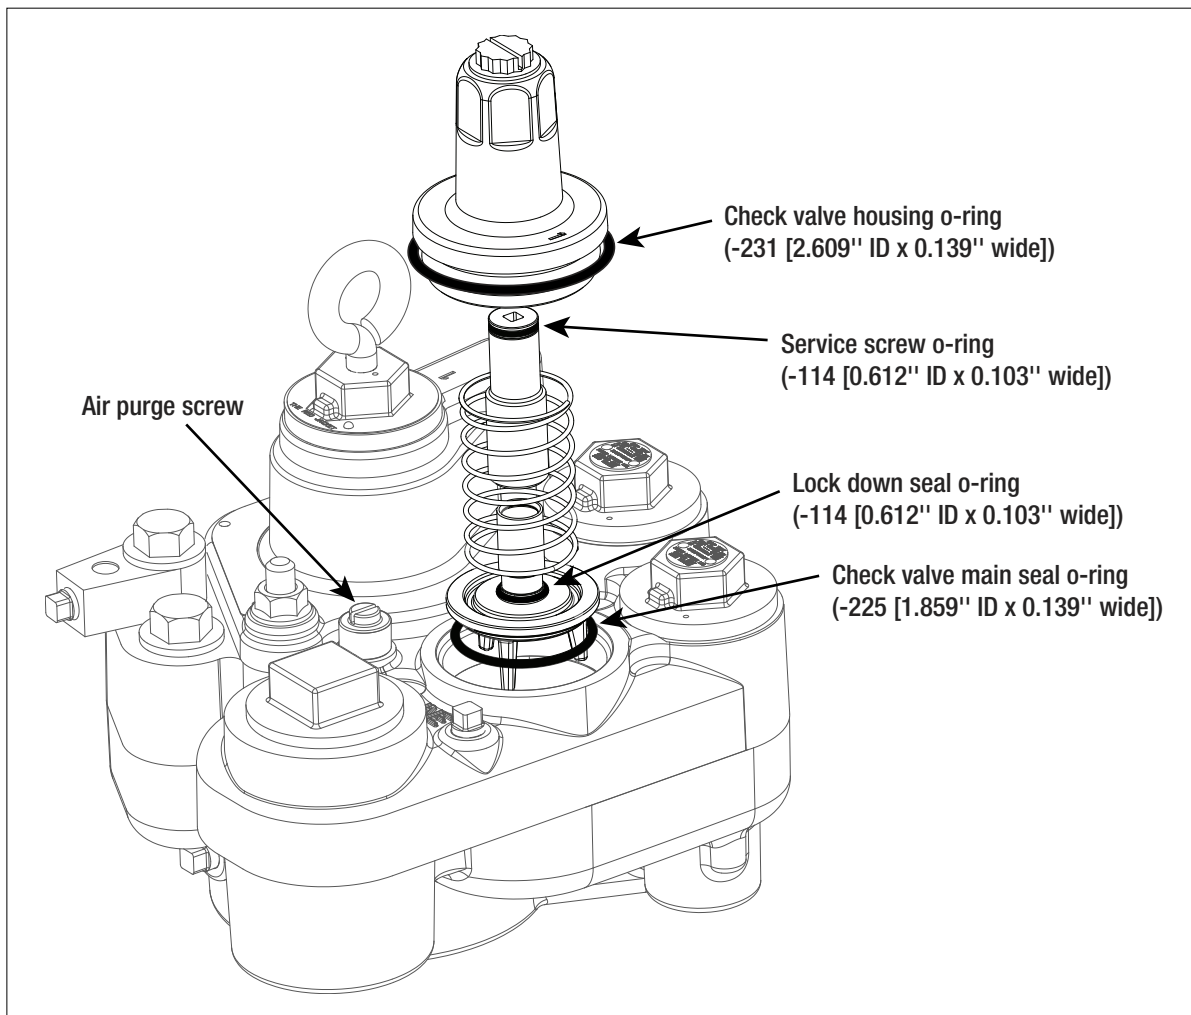

Figure 32. Inserting Check Valve Assembly into Manifold
6. With its lubricated O-ring in place, insert the check valve onto its seat in the manifold, and place the new spring over the check valve (see Figure 32). Place the check valve housing with O-ring over the spring and check valve and screw it in hand tight. Torque the housing to 40 - 50 ft-lbs (54 - 67 N•m).